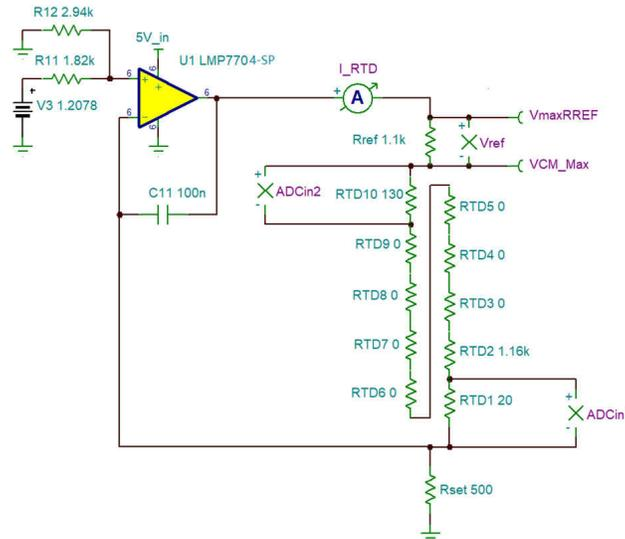

Figure 3-1. TIDA-060042 Schematic
- TIDA-060042: the RTD board that connects 10 RTDs in series and outputs differential RTD voltages as well as the reference voltage. Figure 3-1 shows the schematic of TIDA-060042.